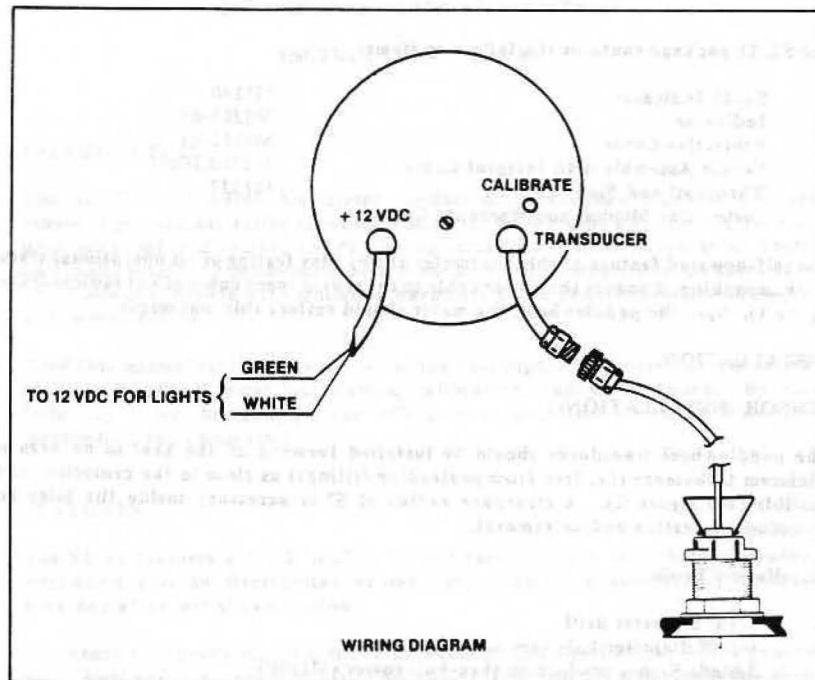

Figure 1
The self-powered feature of this knotmeter allows easy testing of its operational status after unpacking. Connect the sensor cable to the sensor input cable of the indicator (see figure 1). Spin the paddlewheel; the meter should reflect this movement.
5. Connect cables as shown in Figure 1.
3. Determine the boat's average speed by referring to Table 1. Without reducing speed, compare the calculated speed from the table with the displayed speed on the indicator. If they differ, use the calibration screwdriver to turn the "CALIBRATION" pot on the back of the indicator until the display speed equals to calculated speed (see figure 1).